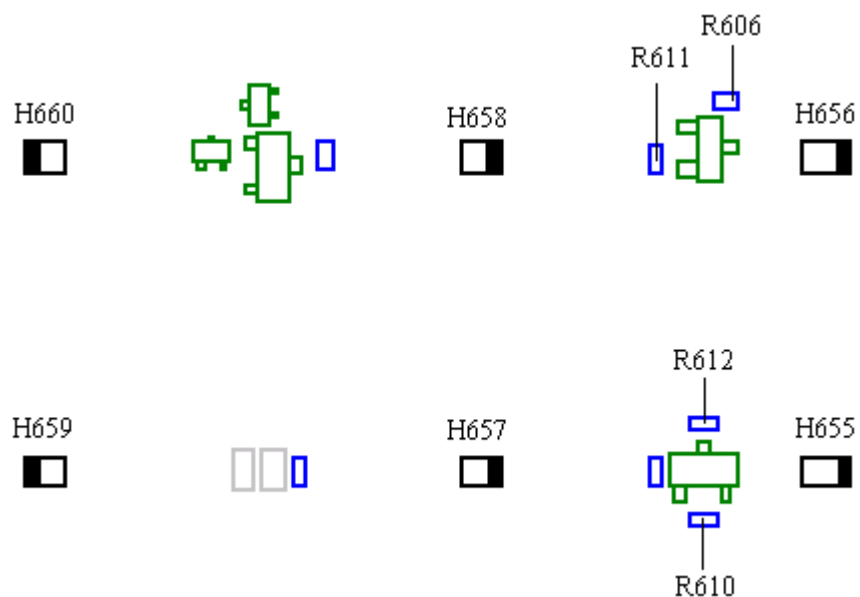

Fig. 9.6
- * If VBATT is missing it most likely means that the phone is liquid damaged. If VBATT is correct, check that R612 (~0 ohms, class A), R610 (~27 ohms, class A) and R606 (~0 ohms, class A) are properly mounted and that they have the correct resistance (all in fig. 9.6).
Make sure that all the LEDs H655-H660 (class A, fig. 9.6) are physically intact, correctly mounted and soldered.
- * If VBATT is correct, check that R612 (~0 ohms, class A), R611 (~47 ohms, class A), R610 (~27 ohms, class A) and R606 (~0 ohms, class A) are properly mounted and that they have the correct resistance (all in fig. 9.6). Table 1 shows symptoms when the resistance of the resistors are incorrect.